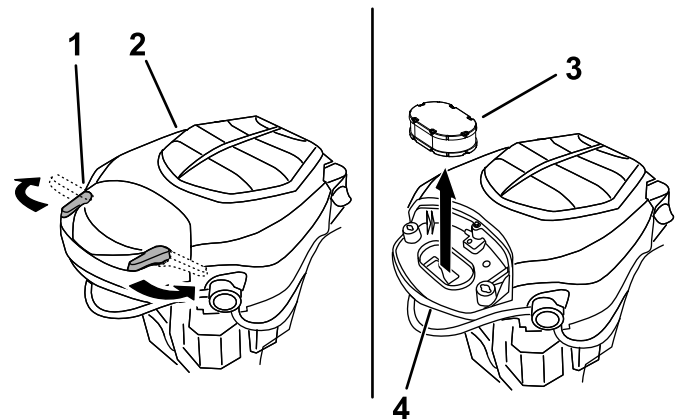

Figure 41
3. Install the cover and secure it with the retaining clamps (see Figure 41).